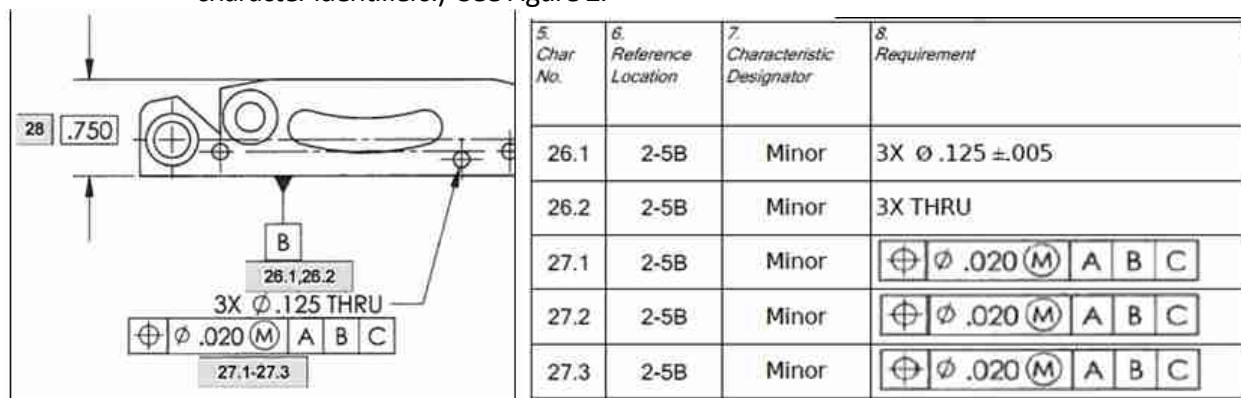

Figure 2
- FIELD 5 [R\*]: CHARACTERISTIC NUMBER - Each design characteristic shall have a unique identifier. The ballooned documents shall have 100% accountability for all features including, but not limited to, all dimensions, notes, specifications, and drawings called out on the part drawing. It is recommended that drawing notes be ballooned first. All flag notes shall be uniquely ballooned. This includes a unique characteristic number for each location within the notes and within the field of the drawing. Form 3, block 8 shall include the flag note and the specified requirement for the Design Characteristic (the requirements as listed in the note or the detail part number). If multiple characteristics are dimensioned under a single characteristic (e.g., 8x 0.250 R), it is permissible to use only one balloon (except for true position) with the actual range (e.g., 0.247 – 0.253) for all 8 places. All true position characteristics must be accounted for separately with individual characteristic numbers. (e.g., If the requirement is true position 3 places, then it must have 3 individual unique character identifiers.) See Figure 2.